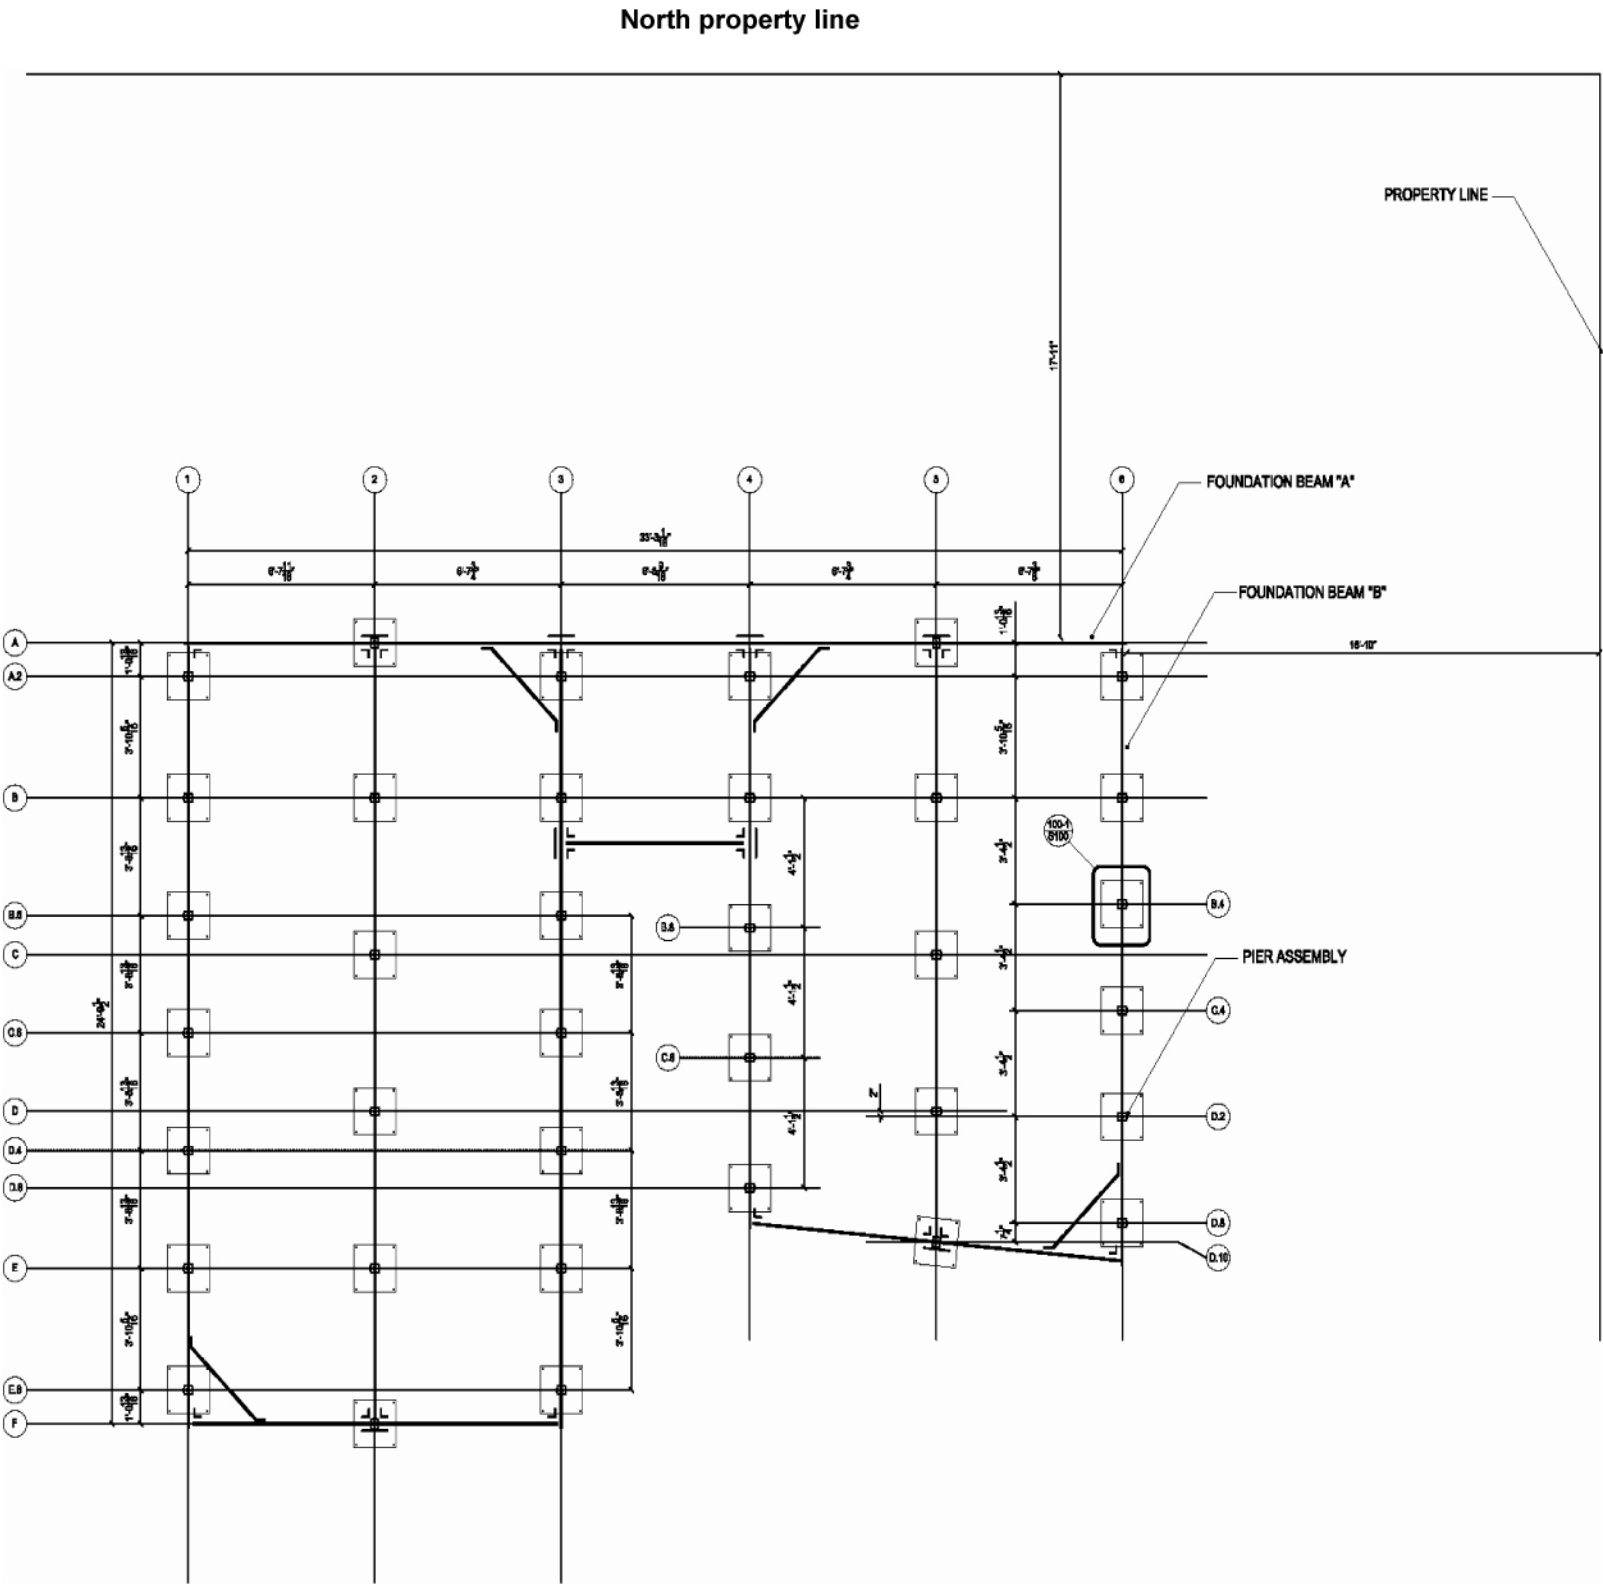
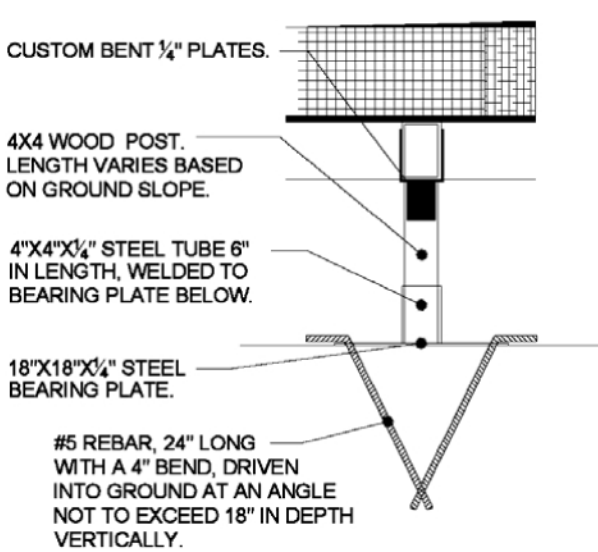

Figure 1: Washington DC Site Location
Figure 3: Pier Assembly
For the competition in Washington DC, measure off of the northern property line to beam “A” 17’ x 11”. Next measure off of the east property line to beam “B” 16’-10” (see Figure 1). Mark both of these distances with lines parallel to the property line.
Begin the foundation installation at beam “B” shown in Figure 1. Construct a pier by using the found top of foundation beam height, begin cutting the 4 x 4 wood posts to support the foundation beams to conform to grade elevations maintaining a level top of foundation beam. Insert a post into the sleeve welded to the bearing plate and secure with two (2) 1/2” x 7” through bolts. At the top of the 4 x 4 post install a bent bracket and secure with two (2) 1/2” x 7” through bolts (see Figure 3). Repeat this process at each of the 36 pier locations. Temporarily support the piers with 2x4 kickers. Insert the beams and fasten to the bent brackets with two (2) 3/4” x 7” through bolts, do not tighten. Level both vertically and horizontally. Note shims may be required to achieve proper alignment, and check for square. All bolts now can be fully tightened.